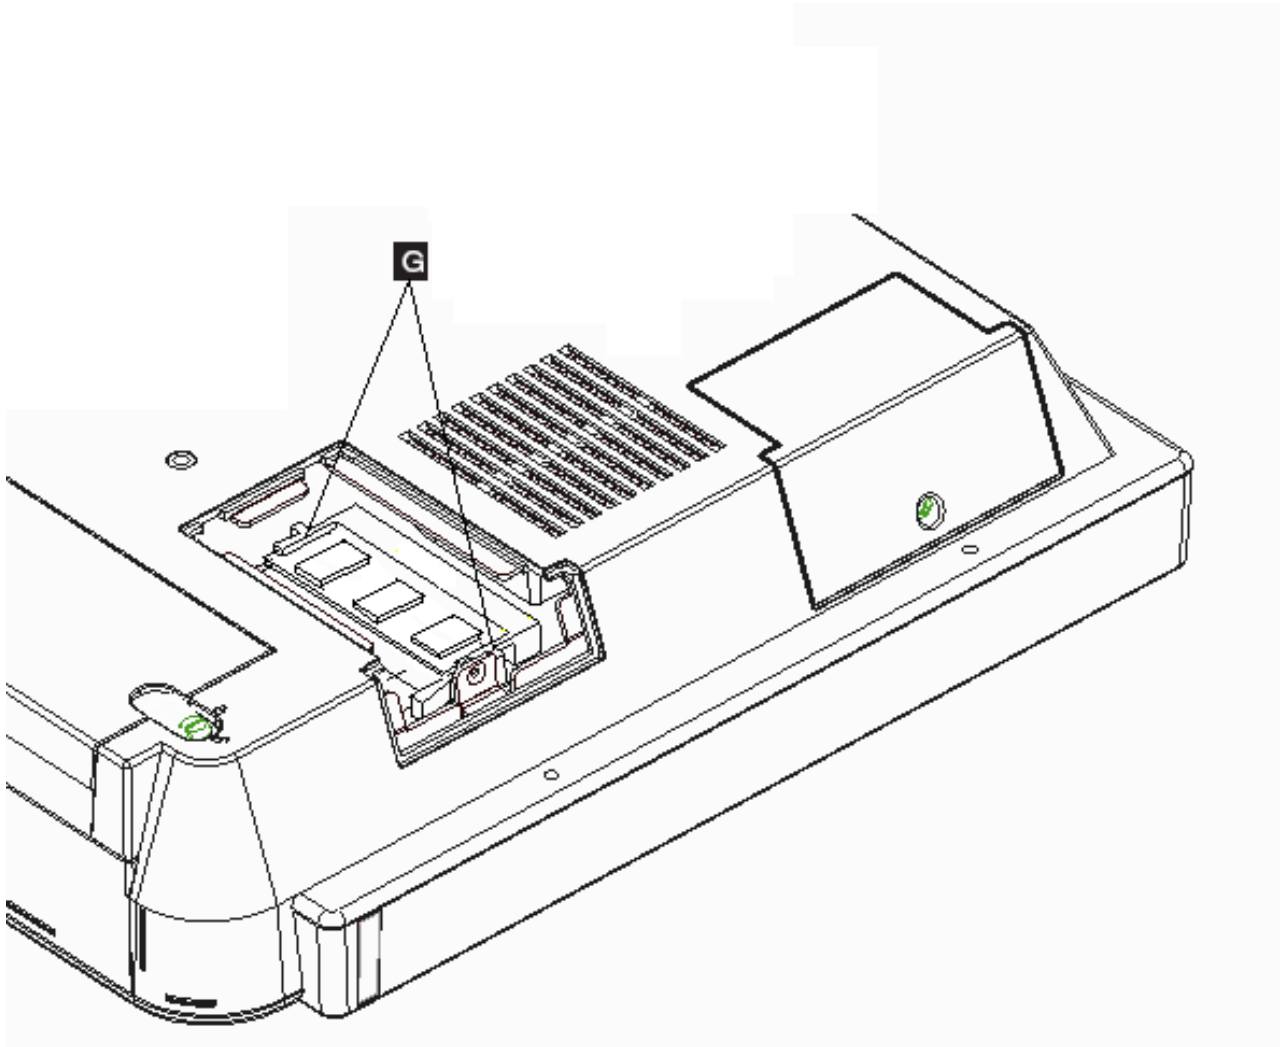

Figure 27. Removing the memory card
3. Gently pull outward on the two side latches holding the memory card (**G** in Figure 27). The memory card pops upward so that you can lift the card from the slot.